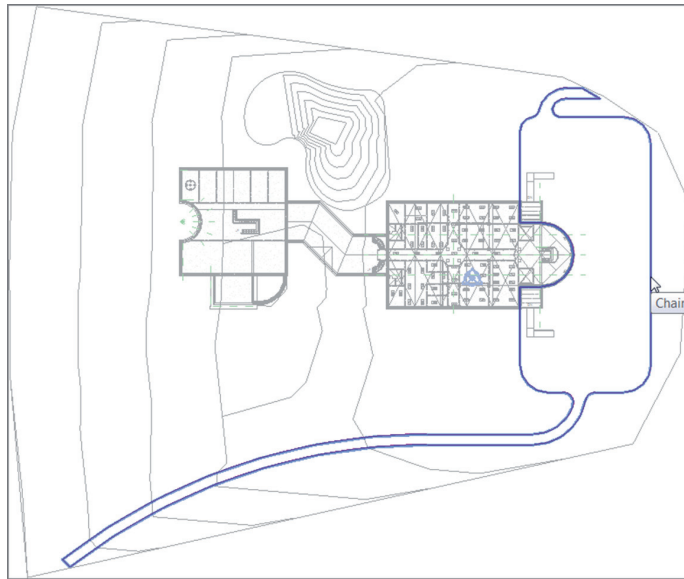

FIGURE BC3.12: Sketching the subregion
5. Draw a region similar to the one shown in Figure BC3.12. (It doesn't have to be exact.) This image shows a parking area with some pedestrian access. The inside of the parking area follows the building footprint. Pick Finish Edit Mode.